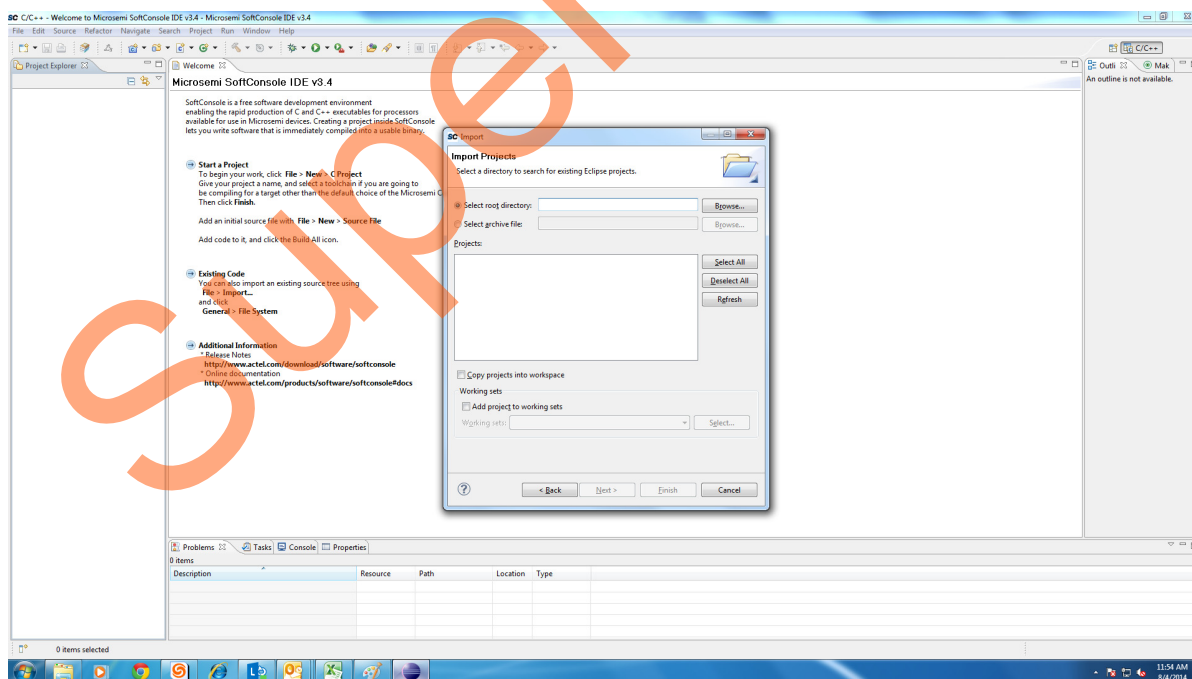

Figure 25 • Import Window
4. Import Window is displayed as shown in Figure 25.